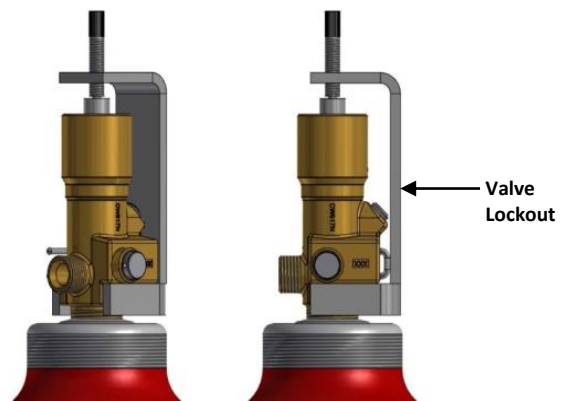

Figure 4.3.1-1 IG-55 Valve Lockout Assembly Installed
- Step 8: Fit the valve lockout assembly onto the valve (Figure 4.3.1-1) prior to removing the filling hose.